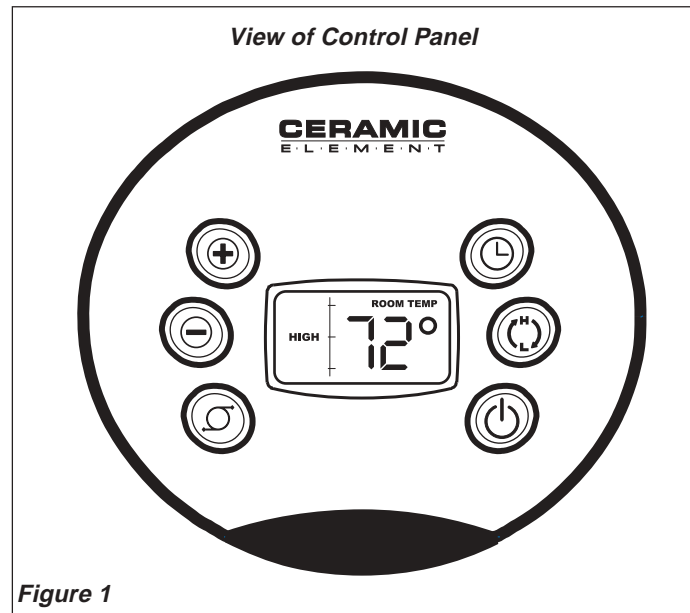
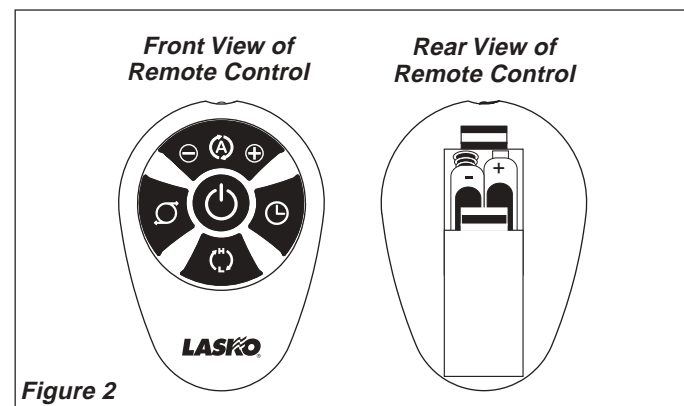

Figure 1
Figure 2
ASSEMBLY (Figures 1 through 6)
2. Attach the **Column Support Assembly** to the **Motor Base** with (4) M5 X 13mm Screws. Make certain to align the **Key** on the **Motor Base** with the **Locating Notch** on the **Column Support Assembly**. (Figure 2)
The Heater may be operated by the manual controls located on the Heater (as shown in **Figure 1**) or by your remote control (shown in **Figure 2**).
REMOTE CONTROL (Figure 2)